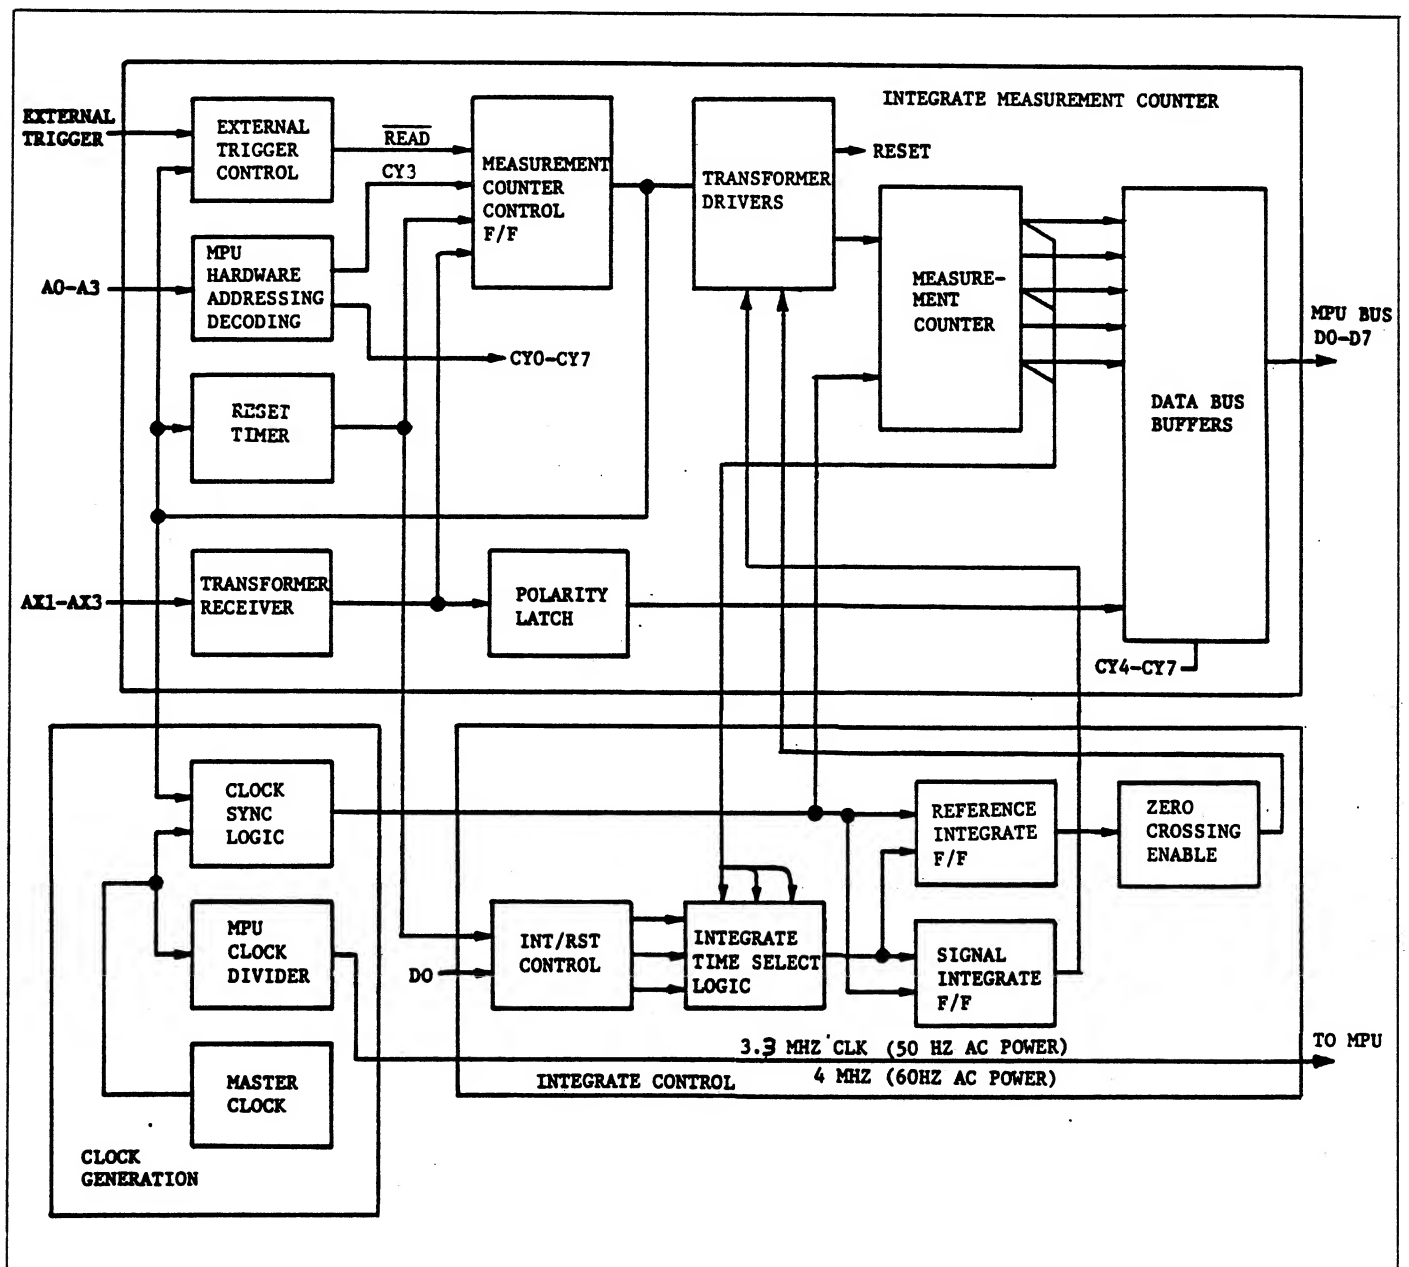

Figure 5.28 - Control Logic
5.4.3.4.1 The Control Logic Board (Figure 5.28) provides the timing circuitry, integration control logic and measurement counters for the DMM.